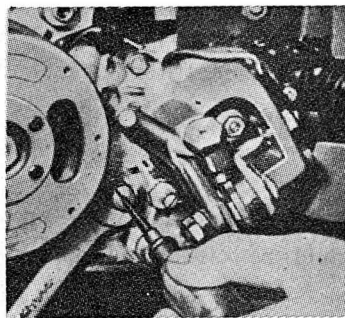

Fig. Y1-29—Over shift can be corrected by turning the eccentric screw as shown. Refer to text.
removed so alignment of shifter head can be observed. If the shift pedal moves the shift plate (15) past the notches for detent (26), turn the eccentric screw as shown in Fig. Y1-29.